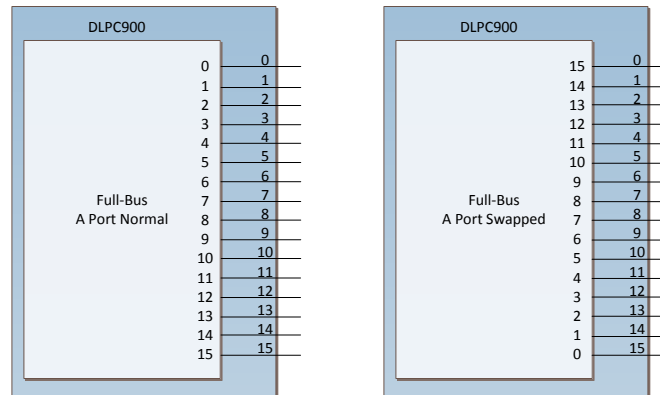

图 7-4. Controller to DMD Full-Bus Connections
- (4) The DLPC900 is a Full-Bus DMD signaling interface. Figure 7-4 shows the controller connections for this configuration.
- (5) The pulse duration minimum for any clock rate can be calculated using the following formulas.
图 7-4 shows the controller connections for full-bus normal or swapped. Refer to the Firmware section of the *DLP® LightCrafter™ Single DLPC900 Evaluation Module (EVM) User's Guide (DLPU101)* or *DLP® LightCrafter™ Dual DLPC900 Evaluation Module (EVM) User's Guide (DLPU102)* for details on how to select the bus swap settings to match the board layout connections.